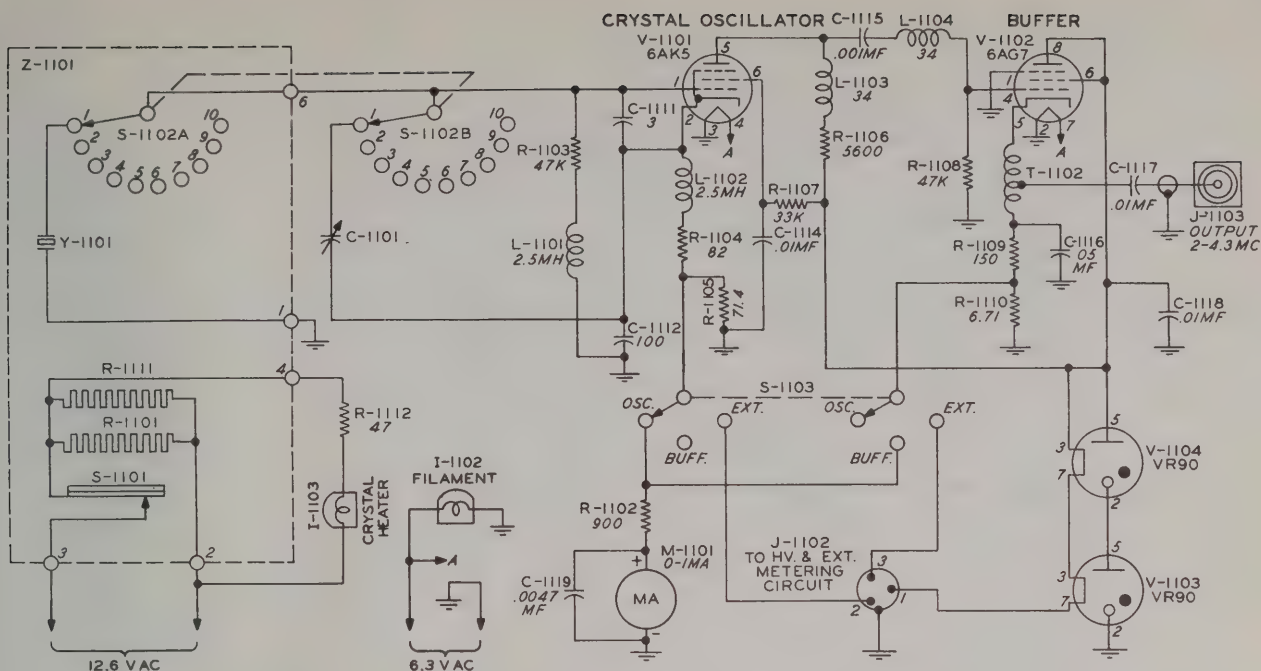

Figure 91. R-F Oscillator O-270/FRT-26, Simplified Schematic Diagram.
*a. R-F Oscillator O-270/FRT-26 (fig. 91).* This is a 10-channel crystal oscillator capable of delivering 2 to 4 volts RMS into a 50- to 80-ohm load over the frequency range 2,000 to 4,300 kc. It utilizes a modified Colpitts oscillator circuit and has an untuned plate load in the crystal-controlled oscillator, followed by an untuned buffer. The oscillator is conventional in that it utilizes the cathode, grid, and screen of the tube as a triode. The crystal is connected from grid to ground, while the screen is at r-f ground potential. Therefore, the crystal operates as a parallel-resonant circuit between the grid and screen. Feedback is provided by the voltage-dividing action of C-1112 and C-1111. The input capacity of the oscillator tube is in parallel with C-1111. This is an extremely stable oscillator circuit, since the crystal itself is the only resonant element. Electron coupling provides the means of coupling to the plate of the oscillator. The buffer stage is operated as a cathode follower as the most effective means of operating into a low-impedance transmission line. The load impedance presented by the line is increased by autotransformer T-1102, so that the cathode follower will operate into a more desirable load.
- (1) Voltage regulator tubes V-1103 and V-1104 maintain the oscillator and buffer operating voltages at 180 volts. Capacitors C-1101 through C-1110 are shunts across the crystals to provide a means for exact frequency setting of the crystal oscillator. The 10 crystals, type AN/CR27-U, are mounted within a common temperature-